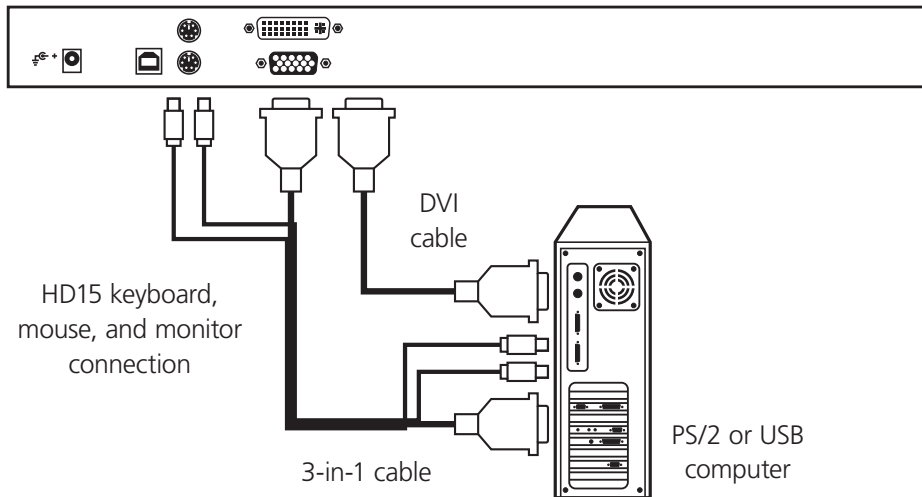

Figure 3-2. Console keyboard, mouse, and monitor connections.
3. Connect the other end of the 3-in-1 or 2-in-1 cable to the monitor, keyboard, and mouse ports on the computer. See Figure 3-2.